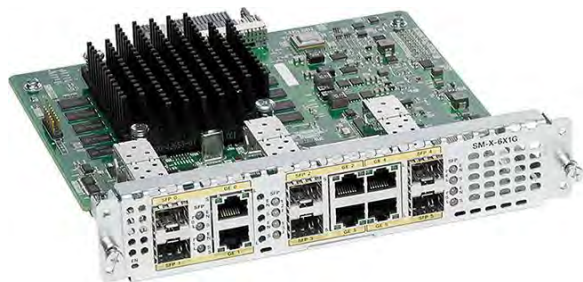

Figure 2.
- Cisco 6-Port High-Density Gigabit Ethernet WAN Service Module (SM-X-6X1G) (Figure 2)